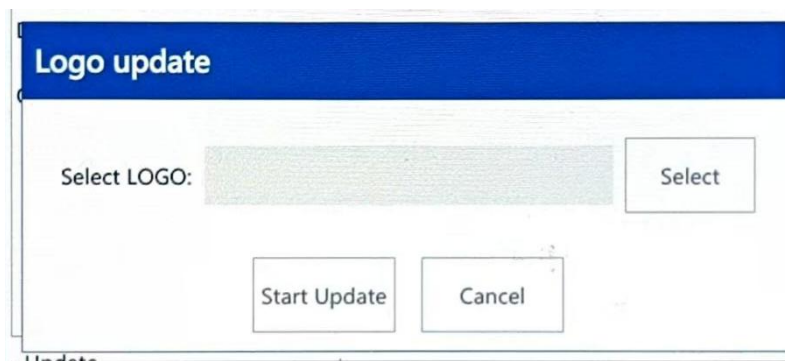

Figure 4-35
3. Click to update logo, and a pop-up interface will appear, as shown in Figure 4-35.
3. Click on M-LOGO, and a pop-up interface will appear, as shown in Figure 4-35